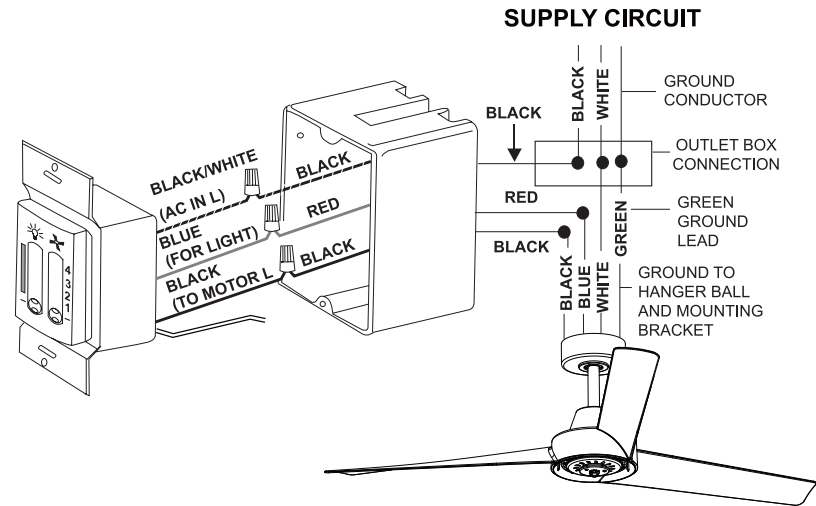

Fig. 12
Step 1. Set the knob of light on the wall control in the - position and set the knob of speed on the wall control in the - position. (Fig. 12)
Step 2. Make wire connections (Fig. 12) and secure with wire nuts supplied.
- Blue wire from fan to blue wire marked "for light" from light control through a red wire which is shown (Fig. 12). The red wire may be a different color depending on your location if you are unsure please consult with a qualified electrician.